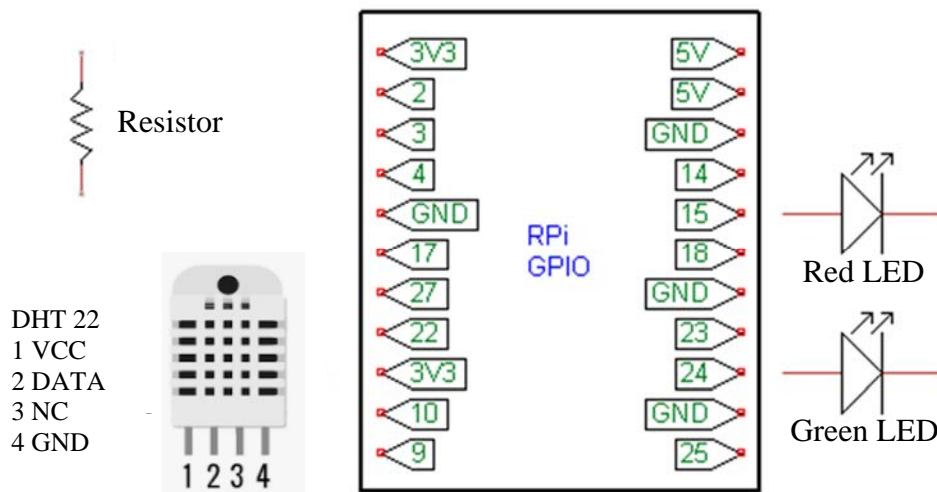

Figure 3[b]
- [b] Draw electrical circuits using the symbols shown in Figure 3[b] for connecting a Raspberry Pi microcontroller with a DHT22 humidity and temperature sensor, a red LED and a green LED to its general purpose input/output (GPIO) pins 4, 15 and 24 respectively.